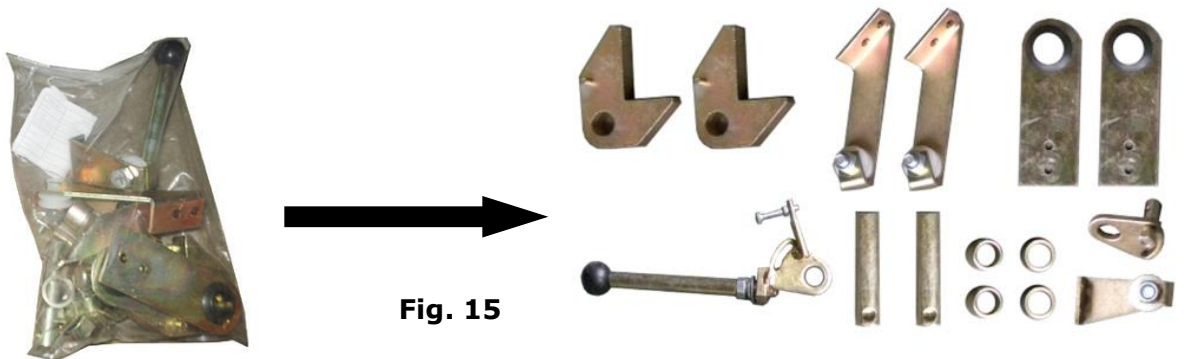

Fig. 15
7. Check the parts of the parts bag 2 according to parts bag list (**See Fig. 15**).